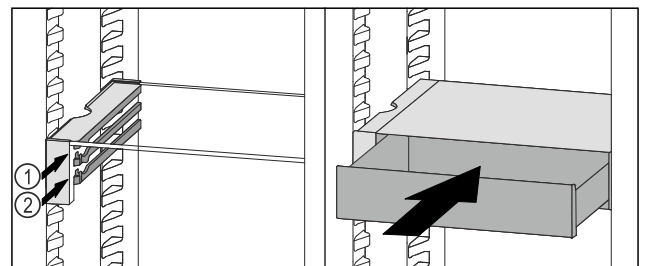

Fig. 38
- ▶ Place the VarioSafe drawer behind the stoppers on desired rib Fig. 38 (1) or Fig. 38 (2).